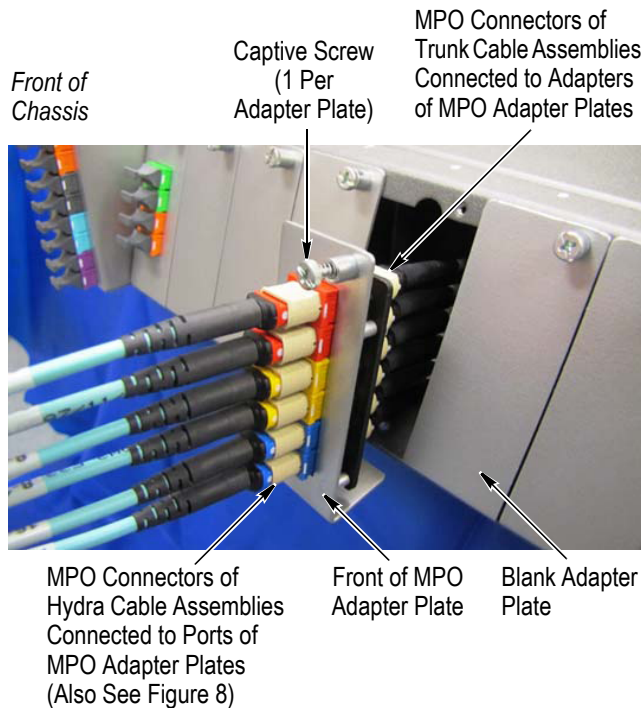

Figure 7
4. Connect the MPO connectors of each trunk cable assembly to the back of an adapter of an MPO adapter plate. Make sure to observe the port designations marked on the front of the MPO adapter plates. See Figure 7.
1. Using the captive screw attached to the MPO adapter plate, install an MPO adapter plate onto the front of the chassis for each opening to be used. DO NOT remove the dust cap plugs. See Figure 7.